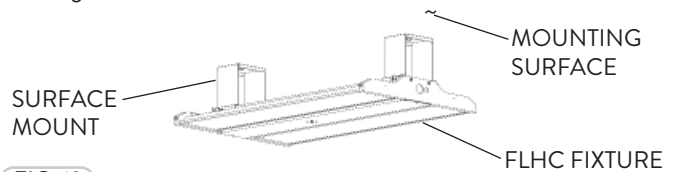

FIG. 12
- 4 This is how the properly surface mounted FLHC Fixture should look (Fig. 12).